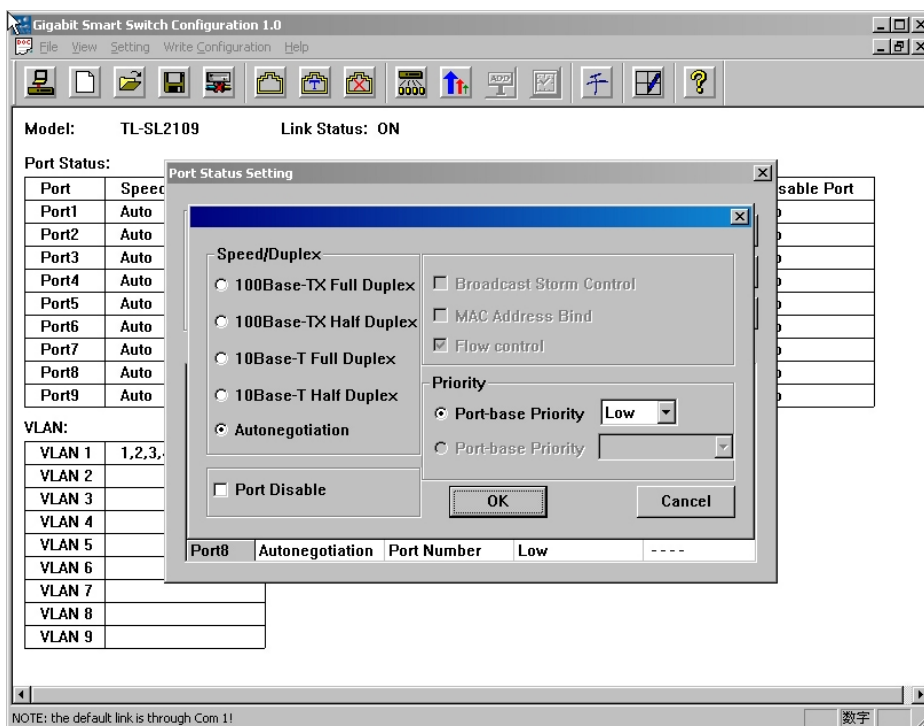

Fig 4.11 Configuring the Port Status
- Every port of the Switch can be configured by the software, as fig 4.11, but you can not operate the dark button.